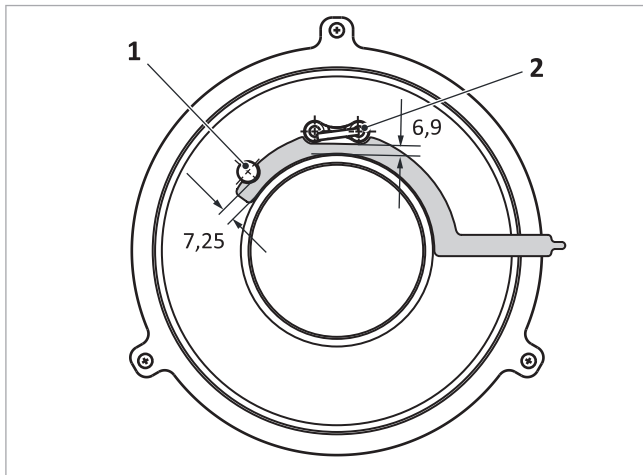

Fig. 137: Clearance from ionisation electrode and ignition electrode to burner tile
- Ionisation electrode → fig. 137 (1): 7.25 mm
- Ignition electrode → fig. 137 (2): 6.9 mm